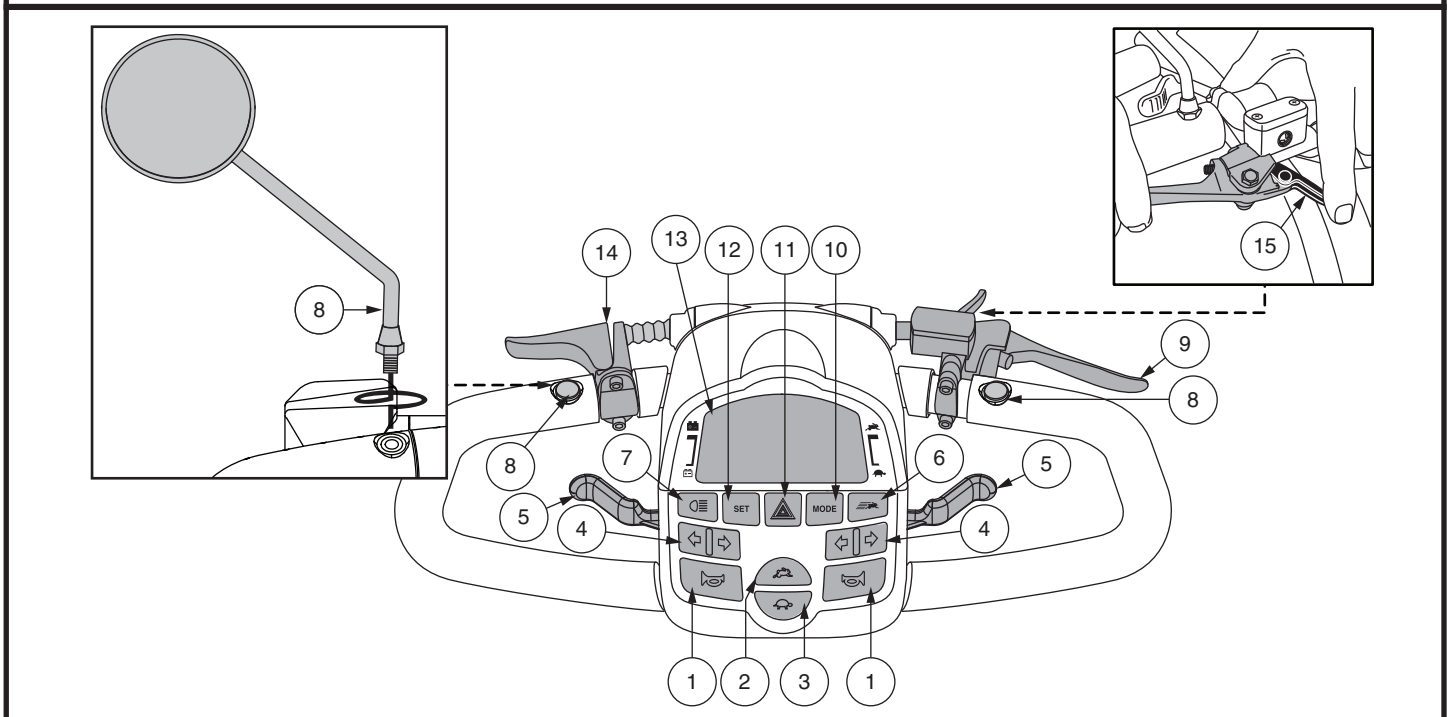

Figure 1. Tiller Console
The tiller console houses all of the controls needed to drive your vehicle, including the LCD control panel, handbrake lever, tiller adjustment lever, and the throttle control lever. See figure 1.
This lever allows you to control the forward speed and the reverse speed of your vehicle up to the maximum speed you preset with the speed adjustment. A throttle control lever is located on the underside of the left and right side of the tiller handle. See **figure 1**.
- Press the **High-Low** button once to set the speed adjustment to high. The High-Low indicator will display on the LCD screen. See **figure 1**. Using this setting in conjunction with the speed adjustment buttons will allow the vehicle to achieve speeds up to the maximum preprogrammed speed for the vehicle.
The LCD control panel offers easily intuited feedback information via the LCD screen. See **figure 1**. The LCD screen is also used during the set-up (activation) of the various control panel settings.
NOTE: To program control panel settings, Hi-Low Indicator must be switched off, and Maximum Speed Indicator must be set to full. See figure 1.